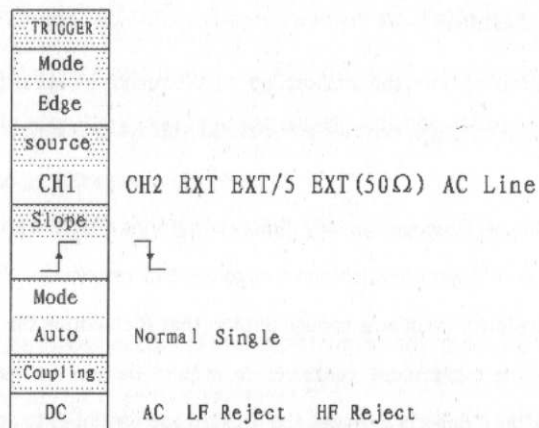

Figure 2-12
- a. **Edge:** Edge trigger can be used in analog and digital circuit analysis. An edge trigger occurs when the trigger input passes through a specified voltage level in the specified slope direction (rising or falling). See Fig. 2-12.